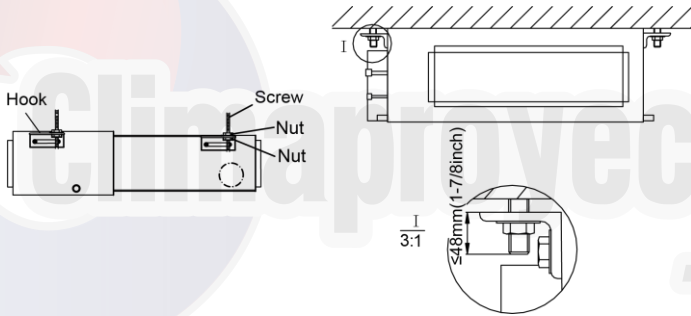

Fig. 4.6
- (4). Pass the unit hangers over the bolts installed to the ceiling and install the unit with the special nut. (Fig. 4.6)